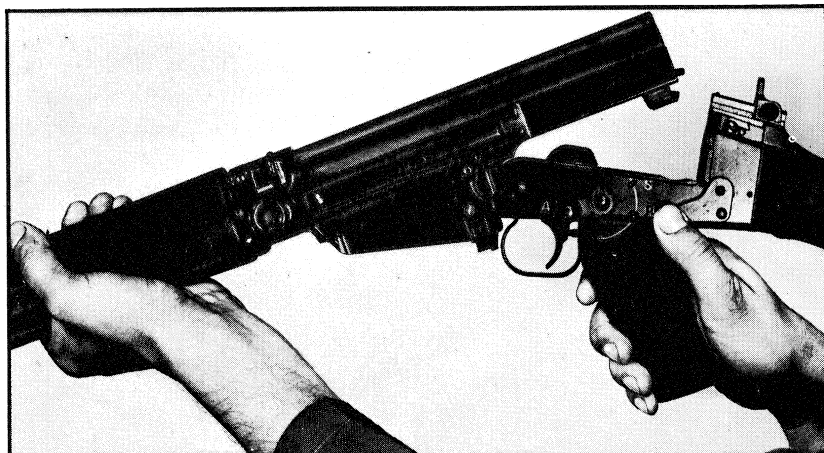

Fig.35
- Press the receiver locking lever rearward as far as it will go, on the left side of the frame; at the same time press down the butt which will open as if it were a shop-gun (fig. 35).